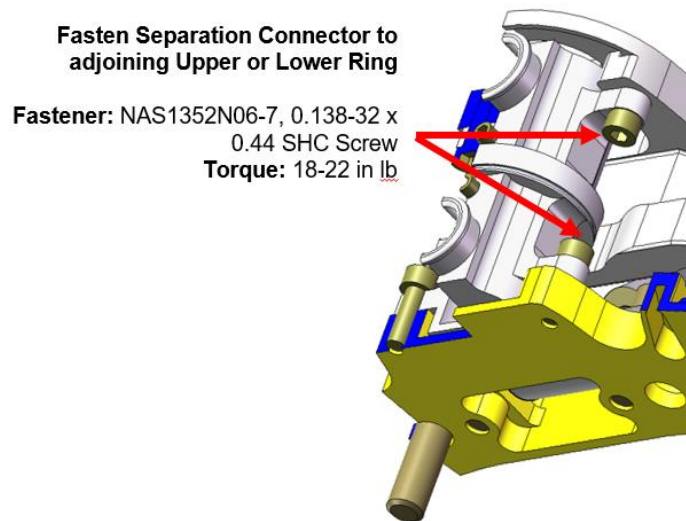

Figure 11-7: Separation Connector attachment torque
11.4.3	If Separation Connectors were installed and loose, torque attachment screws 18-22 in·lb per Figure 11-7 and Figure 11-8.